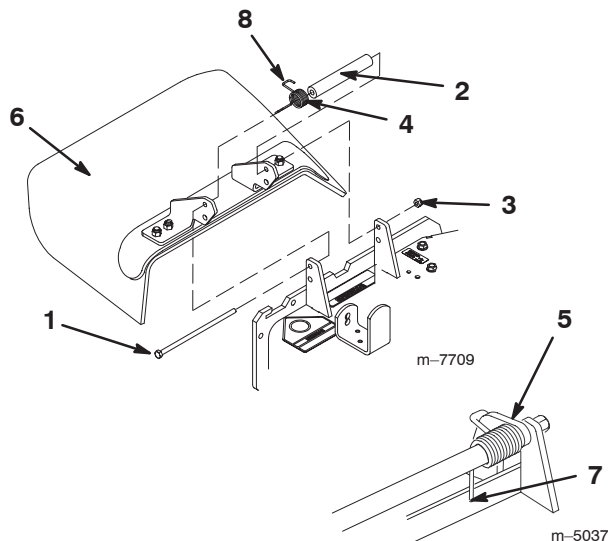

Figure 65
1. Remove the locknut, bolt, spring, and spacer that hold the deflector to the pivot brackets (Fig. 65).
5. Place the hook end of the spring around the grass deflector (Fig. 65).